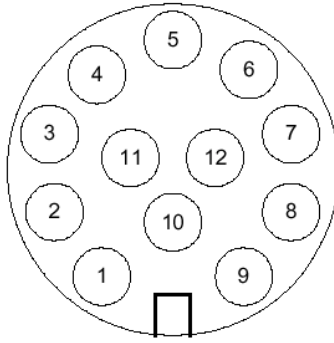

Figure 6-3: GPS connector pinouts
- **Connector pinouts:** The GPS connector receptacle contains 12 male contacts, as displayed in Figure 6-3.